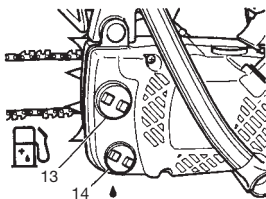

Fig. 8
⚠ WARNING! (Fig. 8)
Chain oil (Fig. 8)
When pouring fuel (13) or chain oil (14) into the tank, place the unit with cap side up. (Fig. 8)